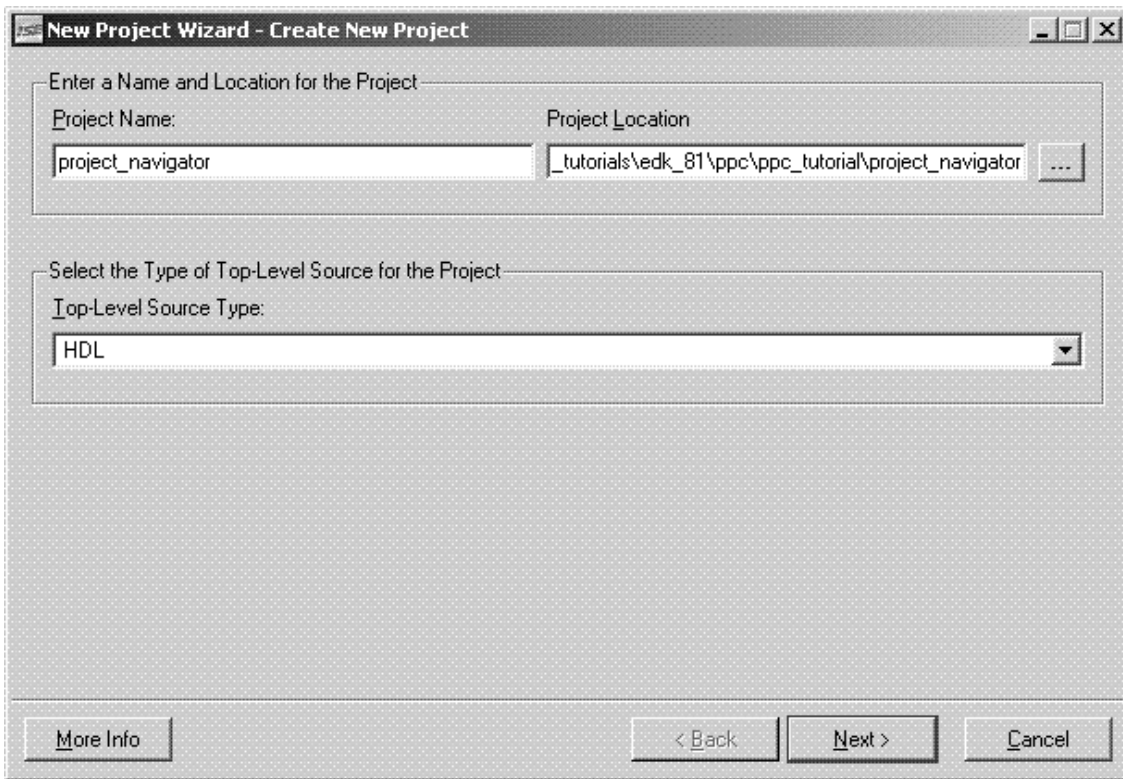

Figure 21: ISE New Project
- In the New Project dialog box shown in Figure 21, browse to the XPS project directory and then enter the Project Name, project_navigator.